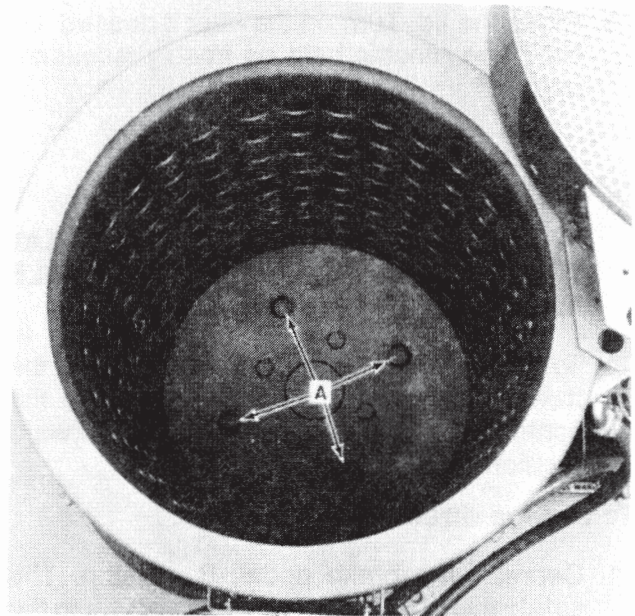
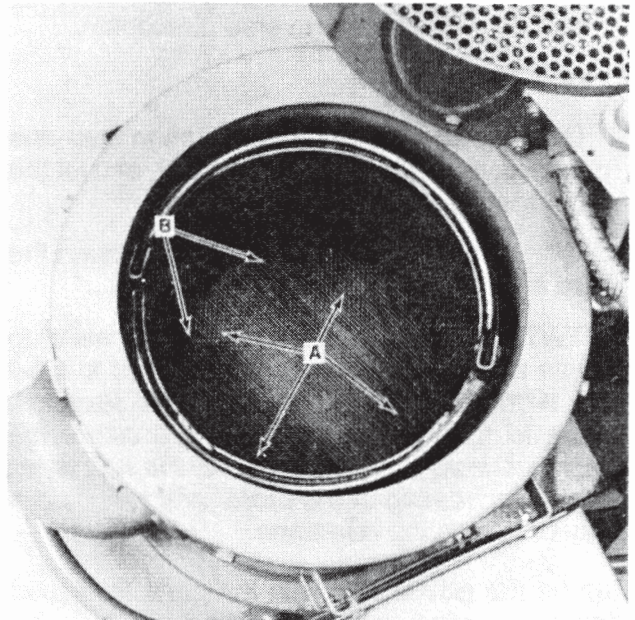

Figure 3-4
Figure 3-5
2. Lower the basket (or flats) into the dryer. Rotate the basket slightly by hand with your foot on the brake to insure proper driving lug engagement with the bars on the basket. See A, Figure 3-4 (without basket), and Figure 3-5 (with basket). This ensures that bars, B, on the bottom of the basket, Figure 3-5, are not on top of lugs, A. If bars, B, are on top of lugs, A, on start-up, the dryer will knock for several seconds until the basket settles between lugs, A. This slipping (knocking) will cause the lugs and bars to wear as they slip over the lugs.